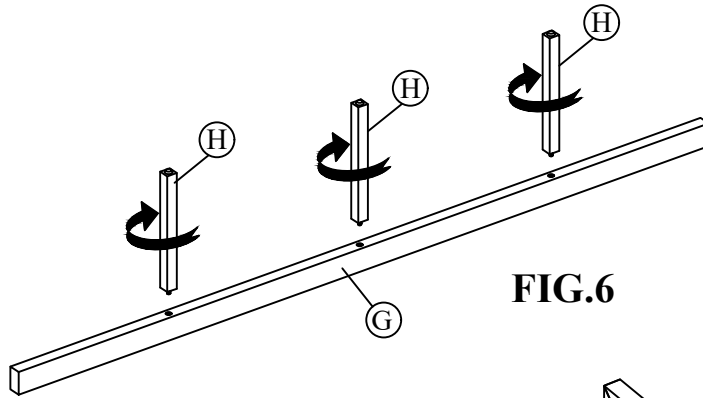

FIG.6
STEP 6: Attach Slats Support Legs (H) to Slats Support Bar (G) as shown in FIG.6